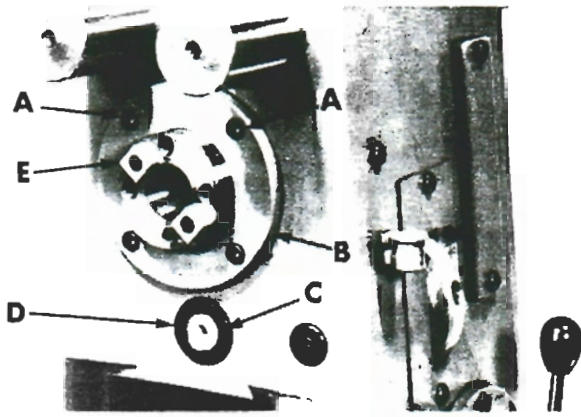

Figure 32
19. Screw on back gear nut (D, fig. 32), tighten set screw (C).
20. Install ring (B) and screws (A) on spindle nose.
21. Install spindle keys (E).